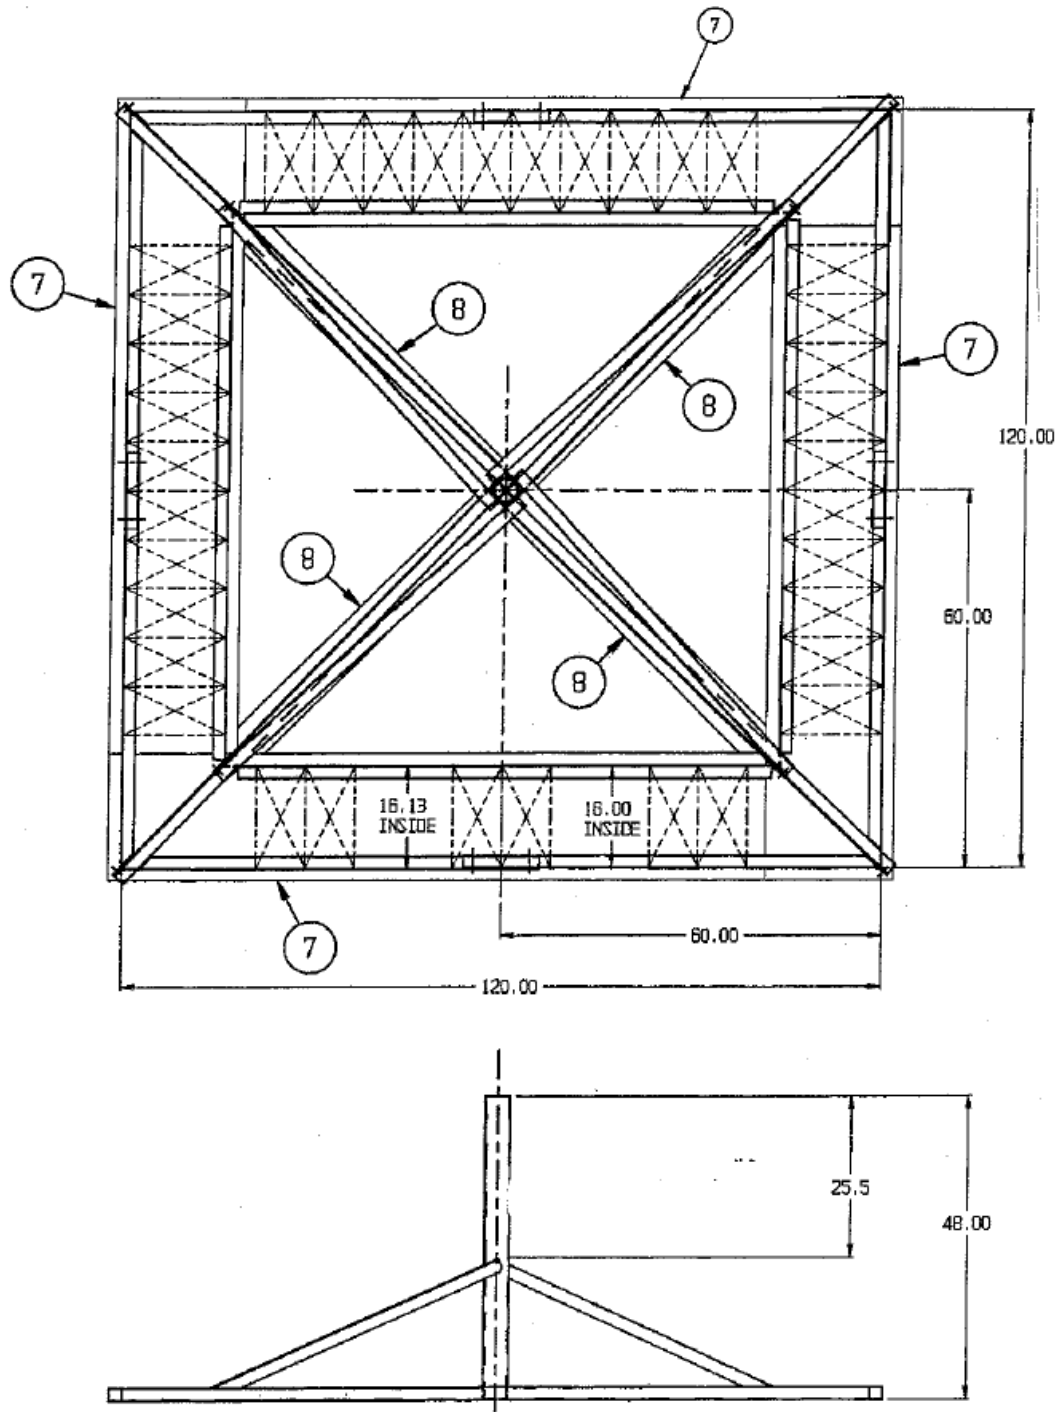

Figure 1
- STEP 2:** Place rubber pads (item 6) on cleared area to form a square with (4) small pads (item 7) placed diagonally across center. (See Figure 1)